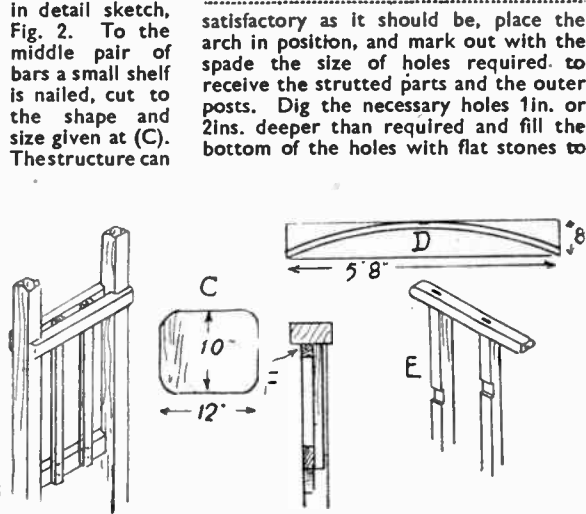

Fig. 2—Details of construction of various parts
The vertical rails, introduced for an ornamental effect, are nailed to the curved rail at the rear. They are evenly spaced in each division. Underneath the top rail of the arch, a 1in. wide strip of wood is nailed along in each division, shown at (F) in Fig. 2, for nailing the vertical rails to top.
The lower vertical rails are nailed between the horizontal bars, and then to the rear of the lower bar, as in detail sketch, Fig. 2. To the middle pair of bars a small shelf is nailed, cut to the shape and size given at (C). The structure can